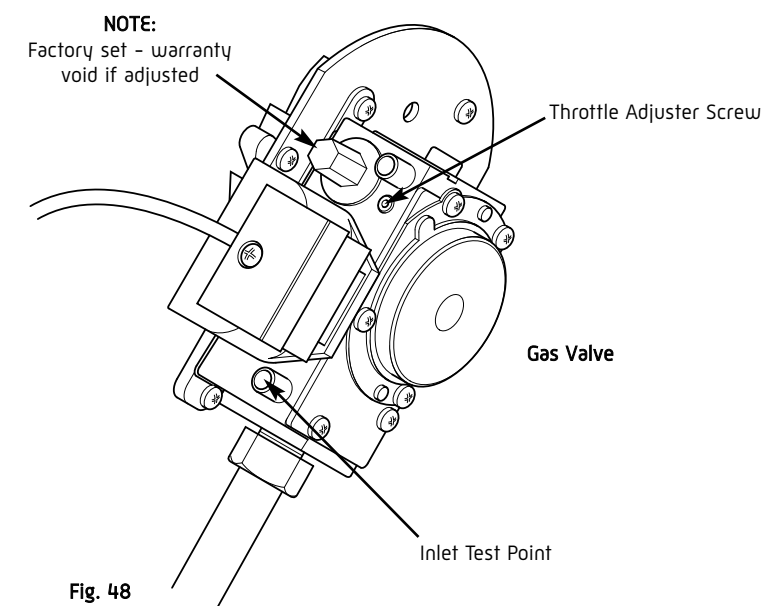

Fig. 48
5. If the Carbon Dioxide (CO₂) level is outside the required values given in Section 12.2 (Table 2) then adjust the throttle screw (Fig. 48) until the CO₂ is at the correct setting level. See Table 4. Clockwise to decrease CO₂, anti-clockwise to increase CO₂.